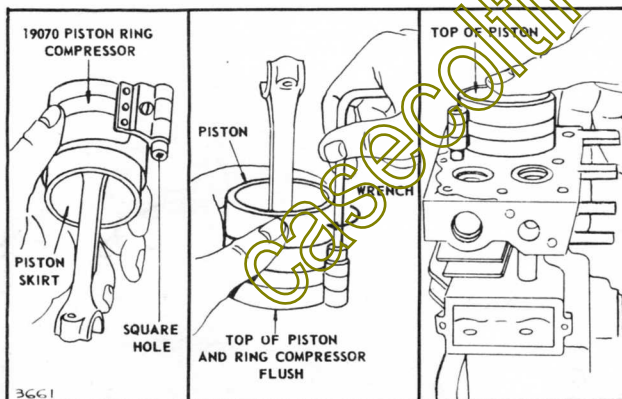

FIGURE 7-8
5. Put the piston assembly into the cylinder bore. See figure 7-8.